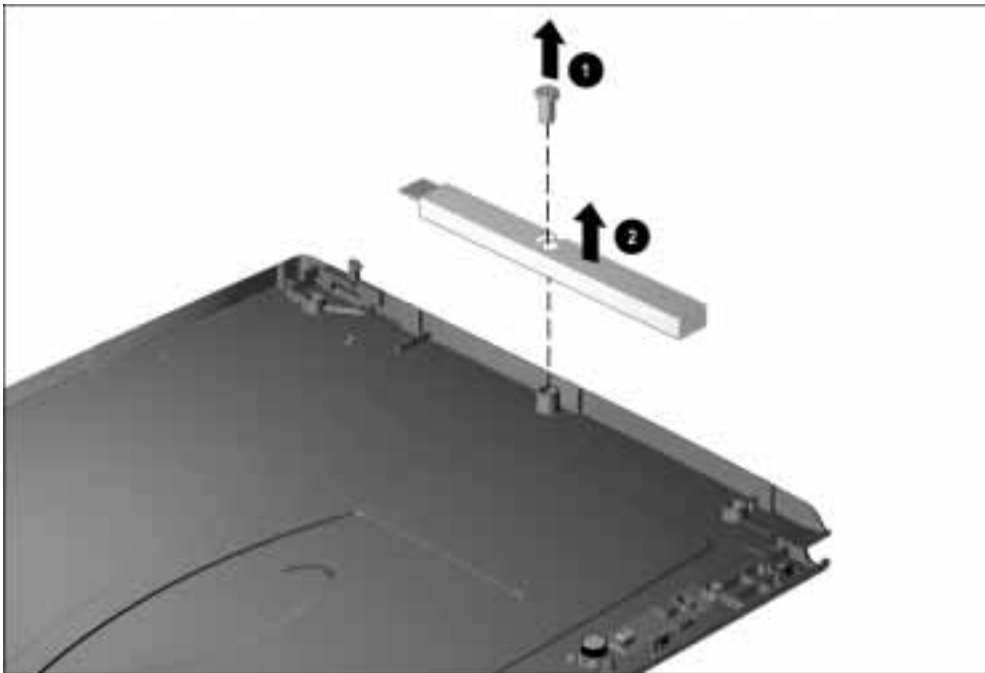

Figure 5-40. Removing the Display Inverter
7. Remove the screw that secures the inverter to the enclosure ❶ (Figure 5-40).
8. Remove the inverter from the enclosure ❷.